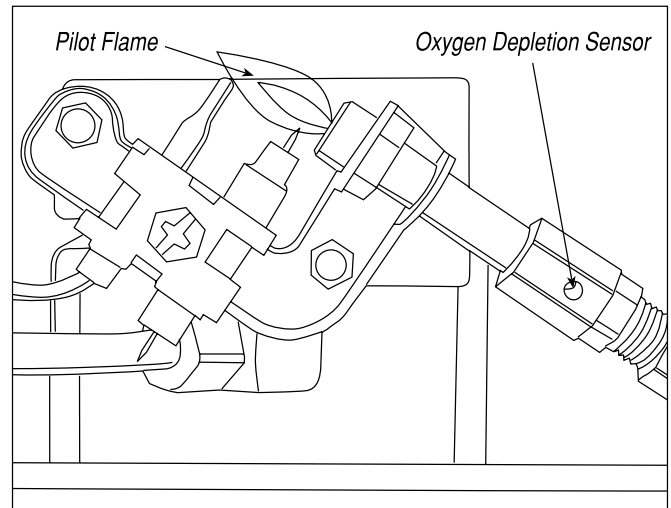

Figure 3
Visually inspect the pilot flame and burner periodically during use. The pilot flame should be blue in color (not yellow) and will extend beyond the thermocouple. The flame will surround the thermocouple just below the tip, see Figure 3. A slight yellow flame may occur where the pilot flame and main burner flame meet. The burner(s) should be bright orange (with a slight blue color around the border, a red-orange haze that is visible on the ceramic tile is acceptable) and without a noticeable flame. A blue flame that rolls out at the top of the ceramic tile indicates an accumulation of dust, lint or spider webs inside the casing assembly and main burner assembly. If the pilot is yellow or the burner has a noticeable flame, cleaning may be required. Use the following procedure to inspect the casing assembly and main burner assembly.
- 4 Remove (4) screws securing back cover to heater. Lift up slightly to release (2) plastic hooks on top of back cover.
- 6 Remove (3) screws attaching lower baffle to expose burner air openings.
- 9 Inspect and clean pilot (mounted to bracket) by using a vacuum or apply air pressure through the holes in the pilot indicated by the arrows in Figure 3.